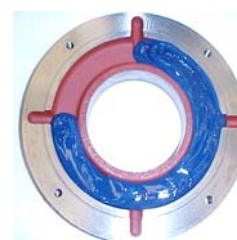

Figure 7.4: Outer bearing cap
- Fill up to  $\frac{3}{4}$  of the inner and outer bearing cap deposits with the recommended grease (Figure 7.4) and lubricate the rolling bearing with enough grease before assembling it;